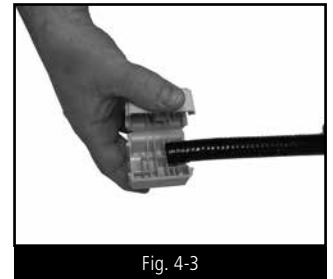
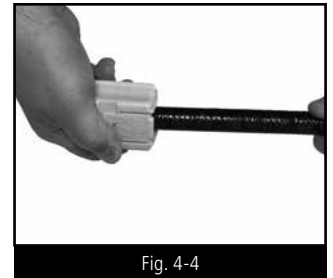

Fig. 4-3
Fig. 4-4
STEP 2 CUT & STRIP JACKET LAYERS (FIG. 4-3, FIG. 4-4, FIG. 4-5)